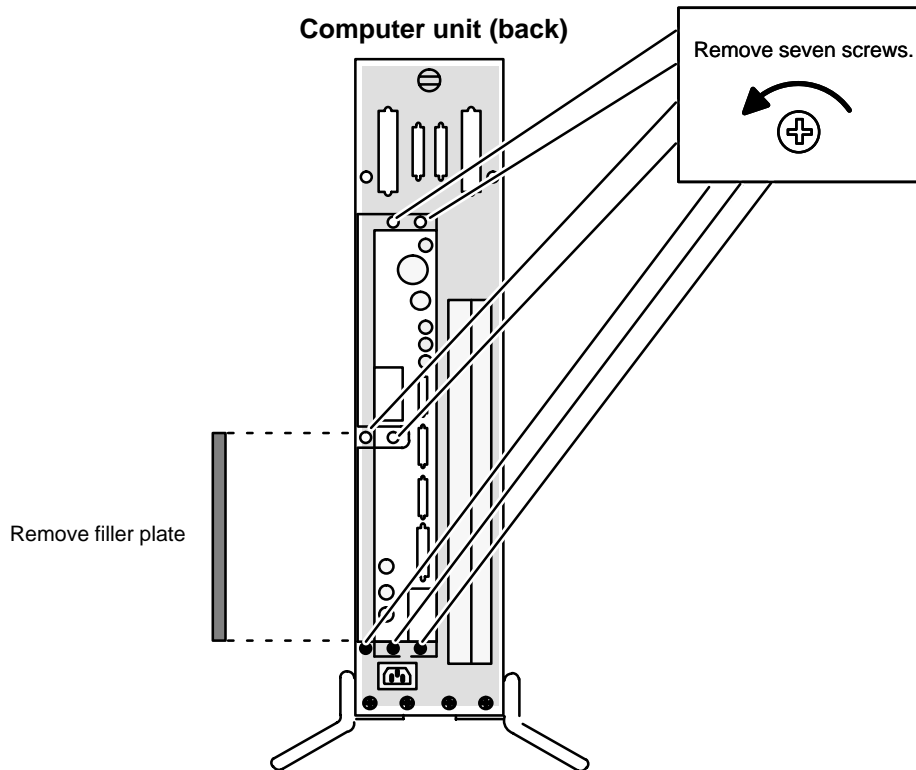

Figure 10-2 Releasing the System Board Bracket from the Back of the Computer Unit
4. Using the small Phillips screwdriver, remove the five screws, shown in Figure 10-2, that secure the system board bracket to the back of the computer unit.
5. Remove the two screws and filler plate, also shown in Figure 10-2, from the computer unit bulkhead.